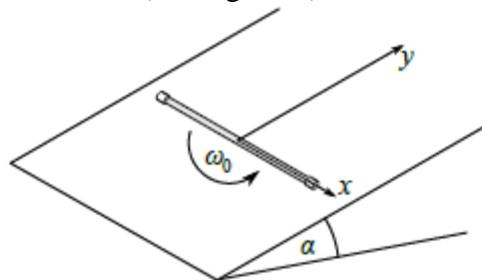

Figure 3: The initial conditions of the rod in section 4.
4. Investigate another situation where the rod is placed horizontally on the inclined surface. Consider that the initial angular velocity ω_0 of the rod is perpendicular to the surface but the initial velocity of the center of the rod is zero (see Figure 3).